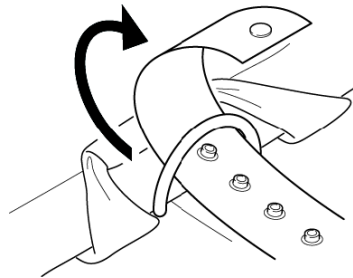

Figure 8
3. Slip the strap through the D-ring and snap it securely as shown in Figure 8. The handle can be used to carry the Transfer Flat.